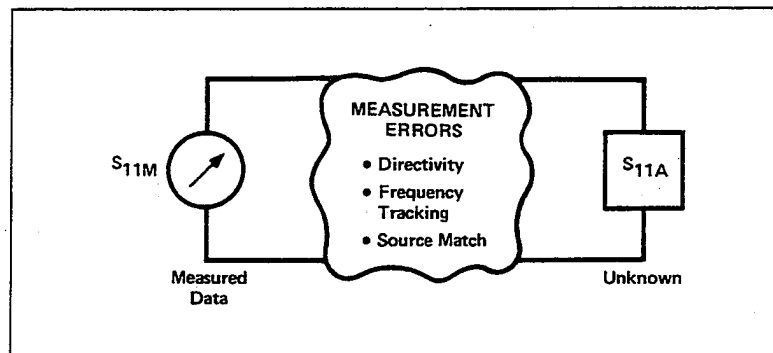

Figure 7-49. Sources of Error in a Reflection Measurement
**Major sources of errors in reflection measurements.** Directivity, source match, and reflection tracking are the major sources of error (Figure 7-49).